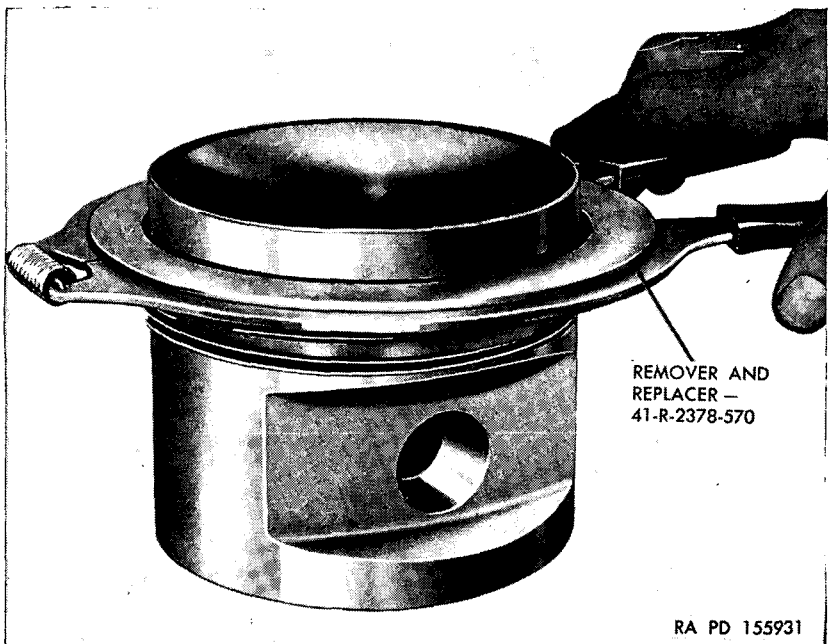

Figure 61. Installing piston ring.
b. Remove rings with remover and replacer 41-R-2378-570 (fig. 61). Tag rings so that serviceable rings may be installed in their original grooves.
- (1) Rejection of pistons for scores and scratches is a matter of judgment. Use a fine mill file to remove metal raised from minor scores and scratches.
- (2) Piston rings cannot be repaired. Unserviceable rings must be replaced.
- (3) Pistons are marked, at original engine assembly, on the bottom of the piston pin boss, accessory case end. Replacement pistons must be similarly marked.
a. Using new rings as required, install piston rings in their original positions with replacer 41-R-2378-570 (fig. 61). Care must be used when installing the rings so the ring lands will not be scratched and the rings will not be distorted.